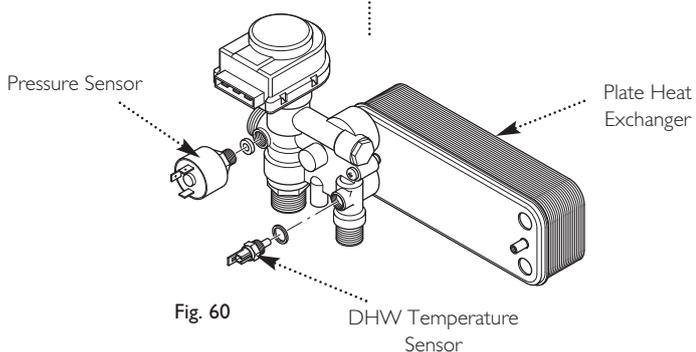

Fig. 60
13.9 Water Pressure Sensor (Fig. 60)
13.12 DHW Temperature Sensor (NTC) (Fig. 60)